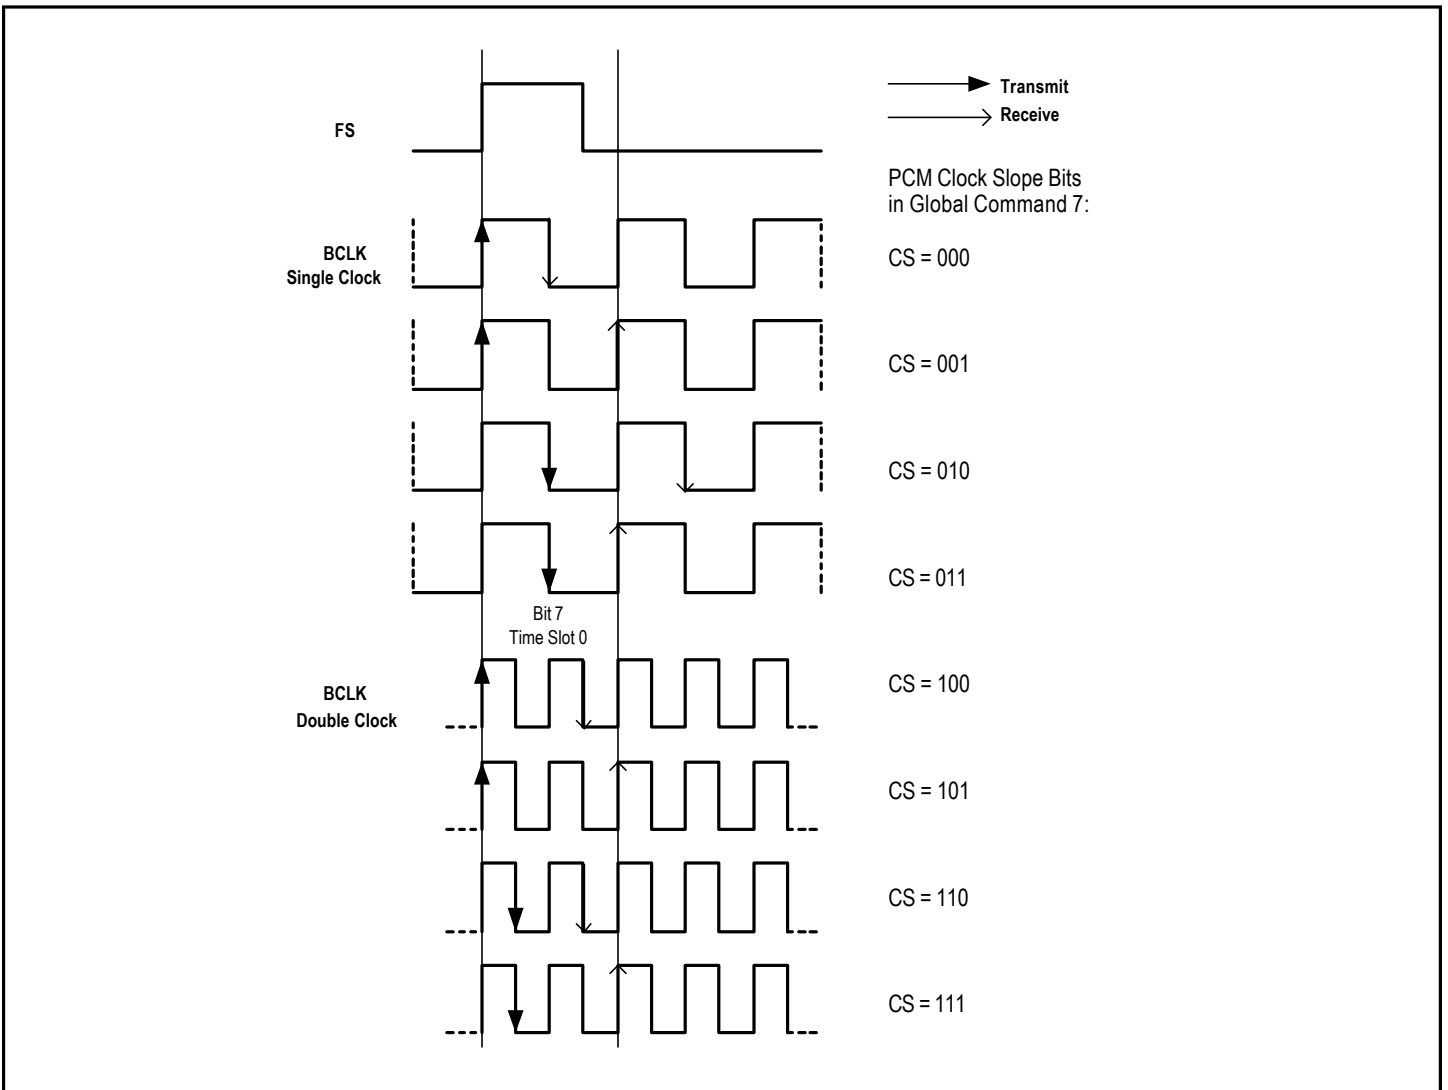

Figure 3. Sampling Edge Select Waveform
In MPI mode, IDT821068 provides two flexible PCM buses for all 8 channels. The digital PCM data can be compressed (A/ $\mu$ -law) or linear format, which is determined by the DMS bit in Global Command 7. The data rate can be configured as same as Bit Clock (BCLK) or half of it. The data can be transmitted or received either on BCLK rising edges or on falling edges. The data transmit and receive time slots can be offset from Frame Synchronization (FS) by 0 BCLK period to 7 BCLK periods. See Figure 3. All the selections are implemented by Global Command 7, which is configured for all 8 channels.